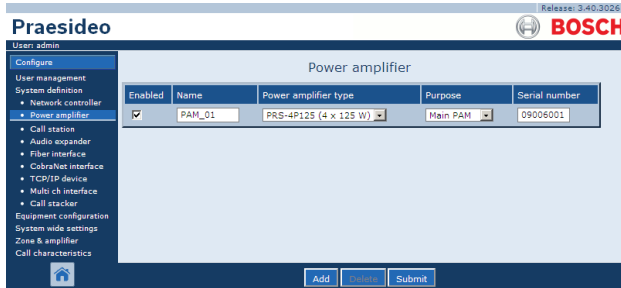

figure 42.7: Add power amplifier, step 4
- 3 Enter the data of the power amplifier (see figure 42.7 for an example).
- Click the *OK* button to add the power amplifier to the list of power amplifiers in the system. A screen similar to the one in figure 42.7 appears in the main frame of the web interface.